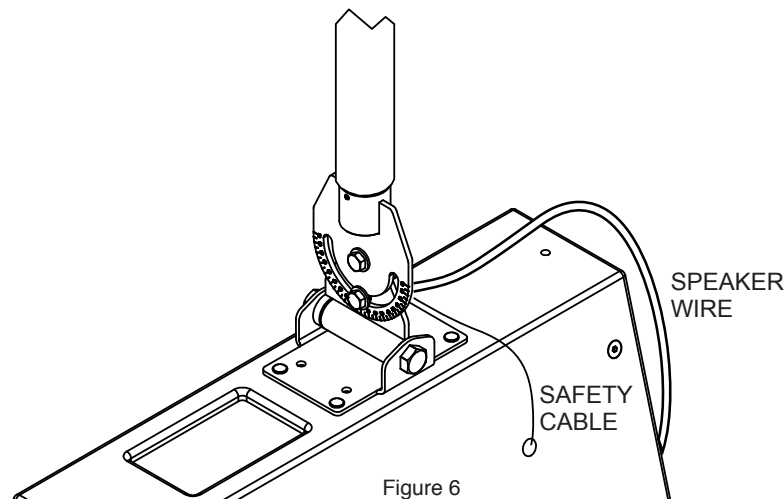

Figure 5
Step 6: Connect signal wire to the speaker terminals and secure the safety cable to the speaker (Figure 5).